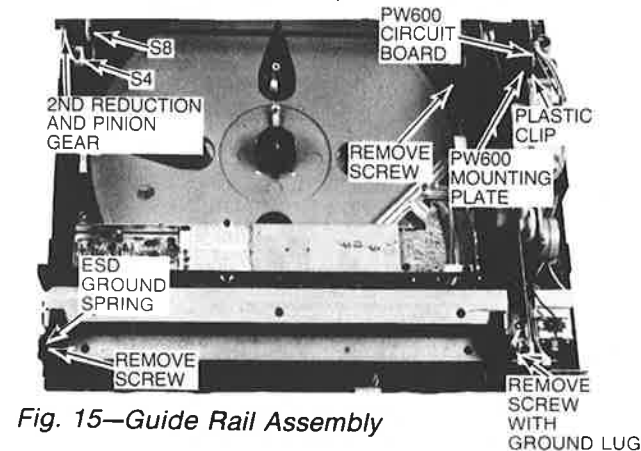

Fig. 15—Guide Rail Assembly
1. Place player in "Load" mode and remove AC plug from AC power source. With cabinet top and front panel removed—remove guide rail assembly front support bracket ESD ground spring Fig. 15, and ground clips from guide rail bracket and pivot support brackets.
12. Remove three (3) posi-drive (+ head) screws (Fig. 15).